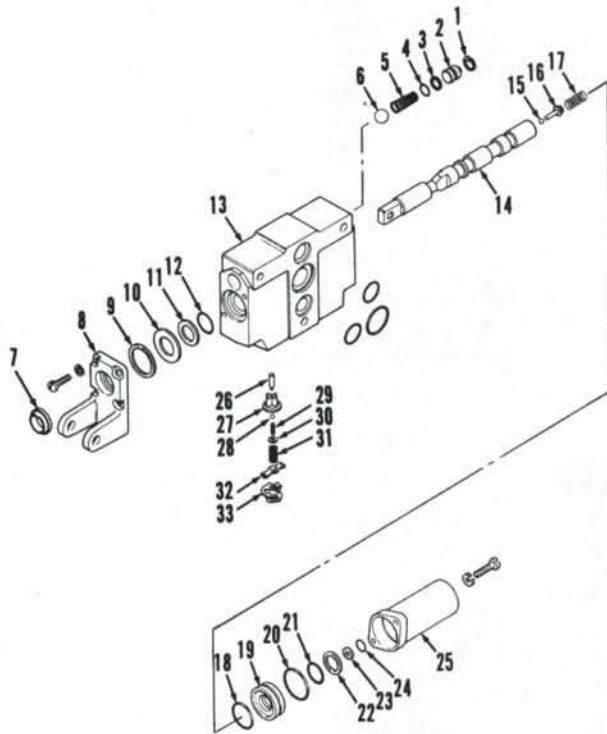

Fig. 172—Exploded view of Bosch No. 052169006 auxiliary valve. Detent assembly not shown. Refer to Fig. 171 for legend except for the following.
To disassemble the valves, refer to Fig. 172 and remove fittings from the raise work port. Bend both ends of retaining clip (33) inward to clear tips on valve retainer (32). Turn retaining clip clockwise to clear valve retainer. Using needlenose pliers, press down on valve retainer and rotate it 90 degrees counterclockwise so the ends fit into large grooves in the